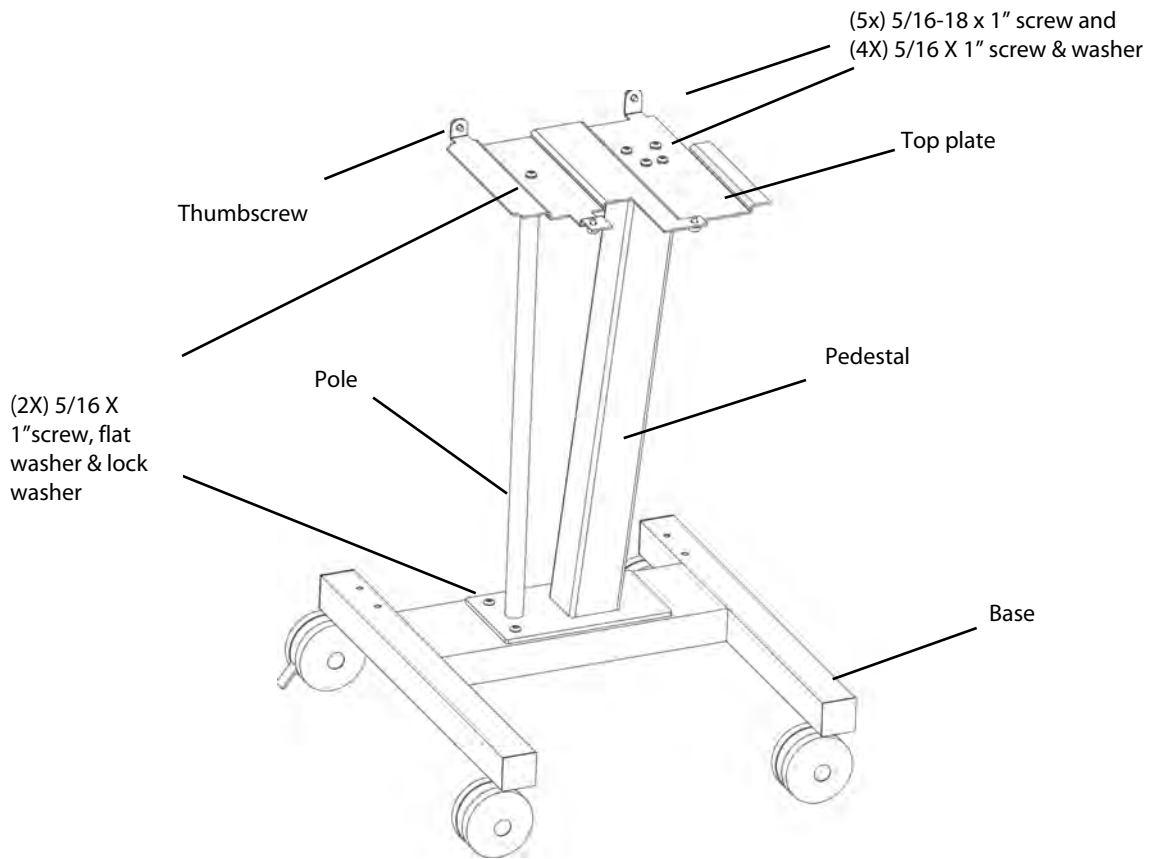
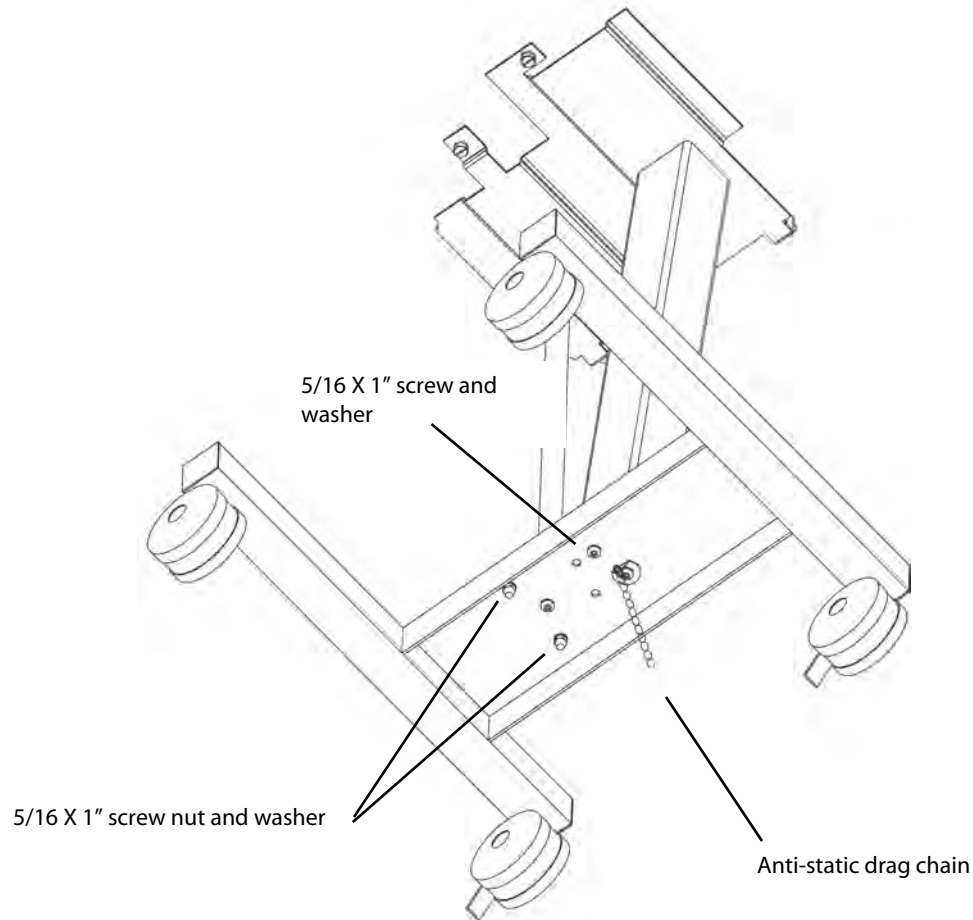

Figure 3.1
Figure 3.2
2. Refer to (Figure 3.1 and Figure 3.2 for steps 3 through 6.
6. Place Avea Ventilator on top plate, align thumbscrews (4) and lightly start all thumbscrews to locate Avea Ventilator. Fully tighten (4) thumbscrews to secure Avea Ventilator.